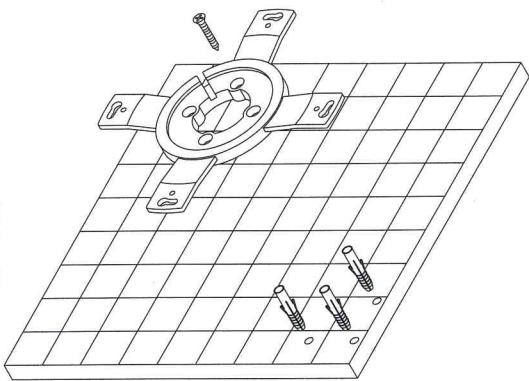

Fig. 1A / Bild 1A
- **Model PEH101.C.** suitable for retrofitting to existing concrete swimming pools. Mount directly onto the wall using screws and wall plugs, with an external cable (see fig. 1A, page 23).